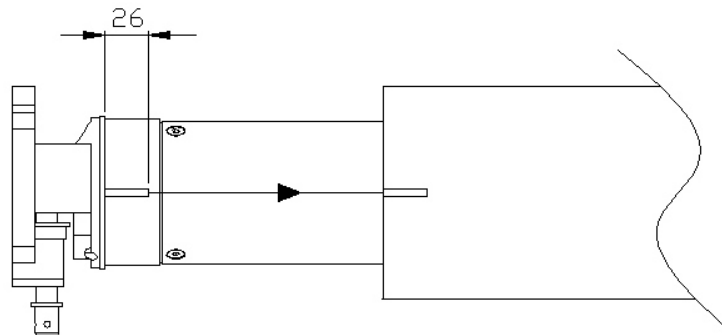

fig. 2
- Insert the motor reducer inside the roller making a slot on the edge of this latter, with equal dimensions to that present on the crown ; (fig. 2)